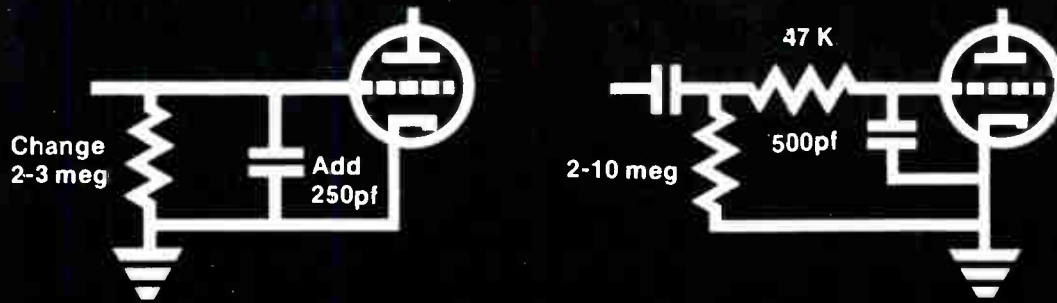

Fig. 17
4. Capacitors, RF chokes and resistors can be used in combinations to make filters to eliminate the interference. For circuits such as those shown in Figure 16, use a choke of 2 to 6 microhenries and a capacitor of about 10 picofarads. A combination RF filter is shown in Figure 17 with the recommended values.
A combination RC filter is shown in Figure 17 with the recommended values.